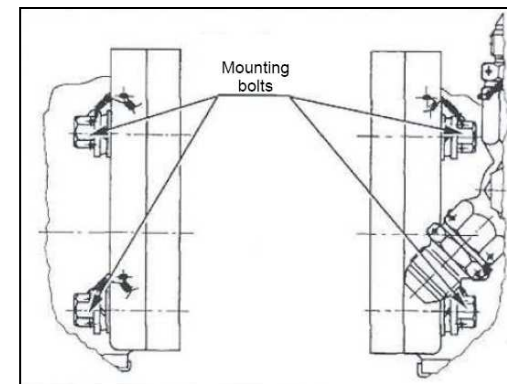

FIGURE 12-7
- (18) Fix the governor using four bolts (figure 12-7) using suitable wrench. A spring washer is at bolt head and the second washer is inserted into governor flange recess with chamfer facing governor. Torque the bolts to 20-24 Nm (180-220 in-lbs). Secure at least three bolts with 0,81 mm (.032 inch) stainless steel wire.
- (15) Fix the governor using four bolts (figure 12-7) using suitable wrench. A spring washer is at bolt head and the second washer is inserted into governor flange recess with chamfer facing governor. Torque the bolts to 20-24 Nm (180-220 in-lbs). Secure at least three bolts using 0,81 mm (.032 inch) stainless steel lock wire.
- (16) If the propeller is not in feather, move it to feather by turning blades to move the beta ring that it seats at the propeller hub.